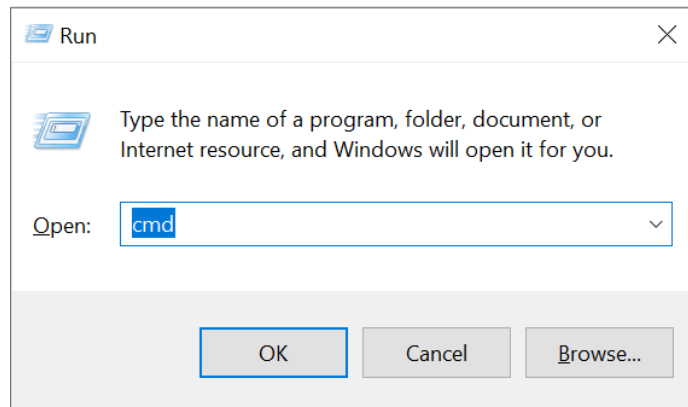
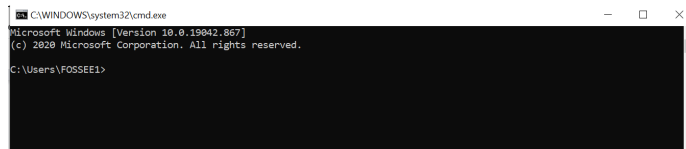

Figure 3.8: Launching the Command Prompt on Windows
Figure 3.9: Command Prompt on Windows
1. Launch the Command Prompt. Press the Windows key+R together. A window, as shown in Fig. 3.8 appears. In the text box adjacent to Open, type `cmd`, and press Enter. The Command Prompt, as shown in Fig. 3.9 appears. By default, it points to the home directory.
1. Launch the Command Prompt, as shown in Fig. 3.8.